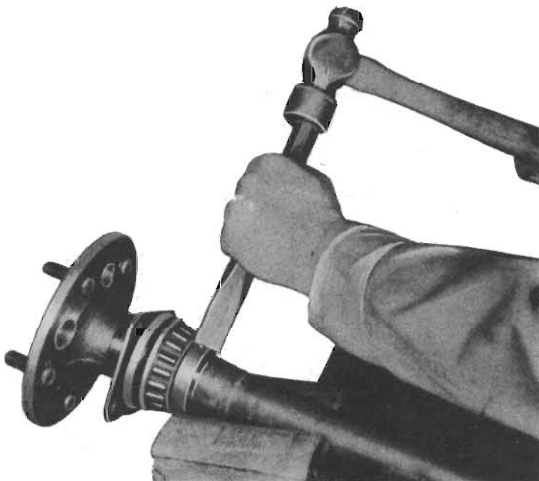

Fig. 9 - Loosening the bearing retainer collar prior to removal.
(1) Loosen the bearing retainer collar with 4 deep chisel cuts, *refer to Fig. 9*.